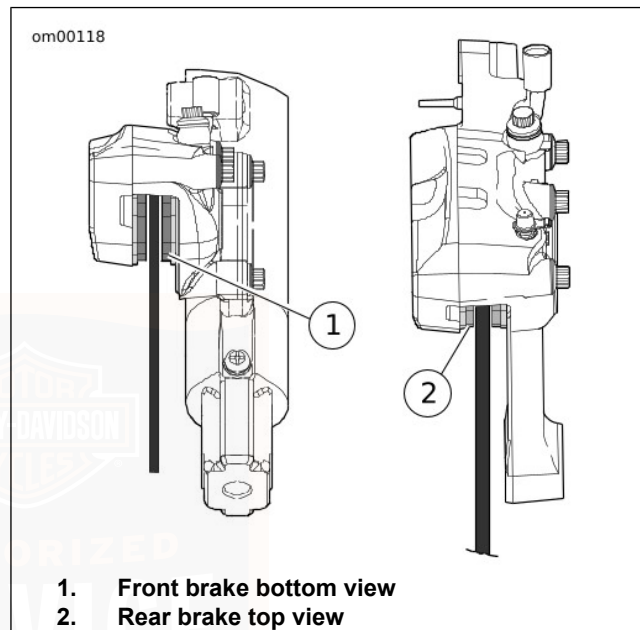

Figure 39. Brake Friction Material
4. See Figure 39. Visual inspection of brake pads can be made without removing the caliper by viewing the lower area of each caliper with the aid of a flashlight. Replace the brake pads if the brake friction material is 0.4 mm (0.016 in) or less above the backing plate.